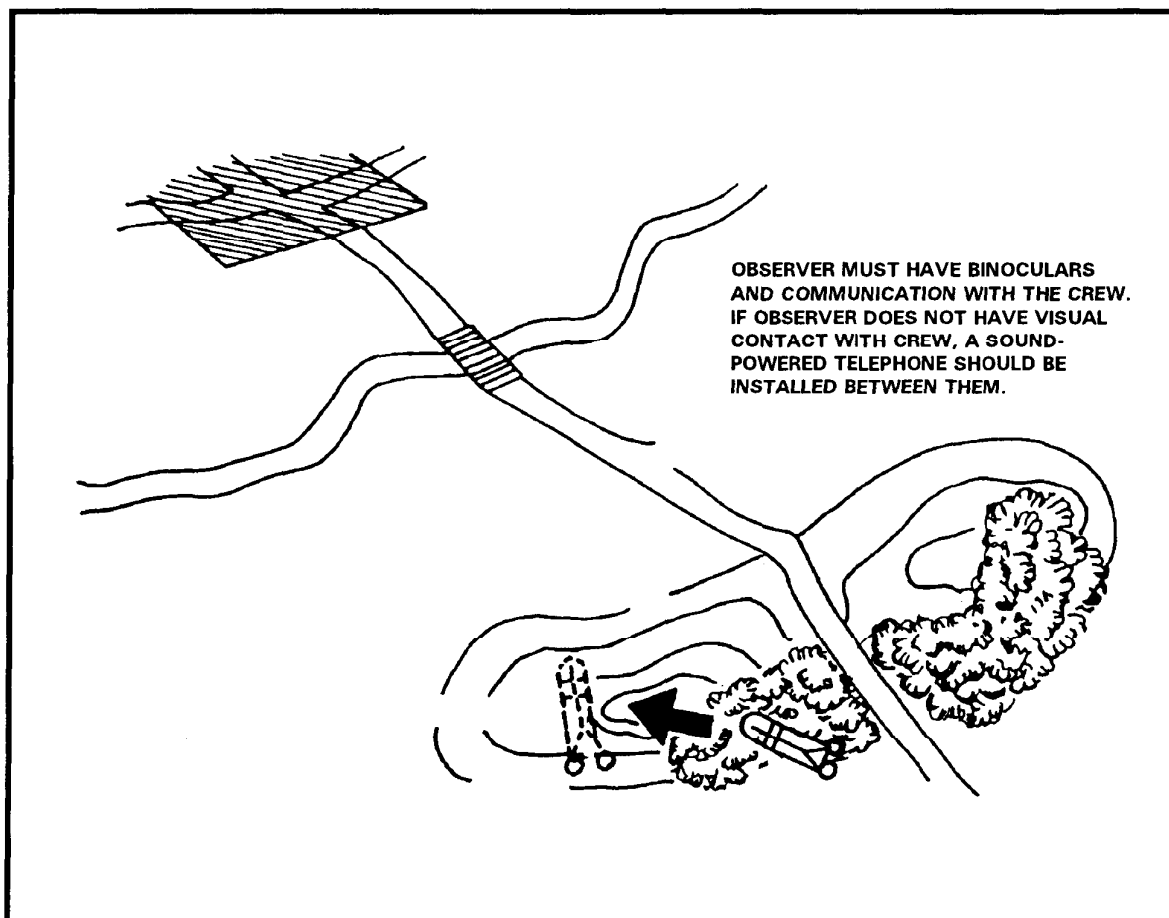

Figure D-3. TOW hide position.
- (1) All vehicles travel to a position over the same route to prevent the enemy from detecting the number of vehicles present.
- (2) The route taken should follow existing paths, roads, fences, or natural lines in terrain.
- (3) Exposed routes should not end at a position.
- (4) If only a short portion of the route into a position is exposed, sweep out the tracks with tree branches.
- (5) Traffic in and out of a position should be held to essential movements only.
- (6) Upon moving into a position, be sure to erase the trail leading into the position.
- (7) Ensure all standard principles of camouflage are adhered to (same as for tripod-mounted position).
- b. If a hull-down position is not available, use a hide position (Figure D-3).